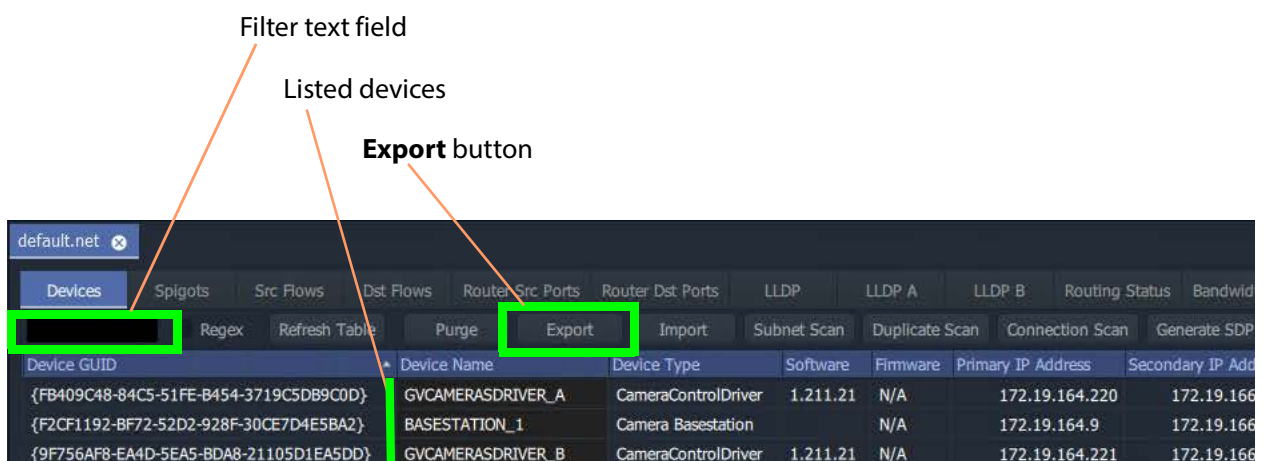

Fig. 18-30: Devices Tab - Export Button
- 1 Ensure that the filter text field is empty (see Figure 18-30).